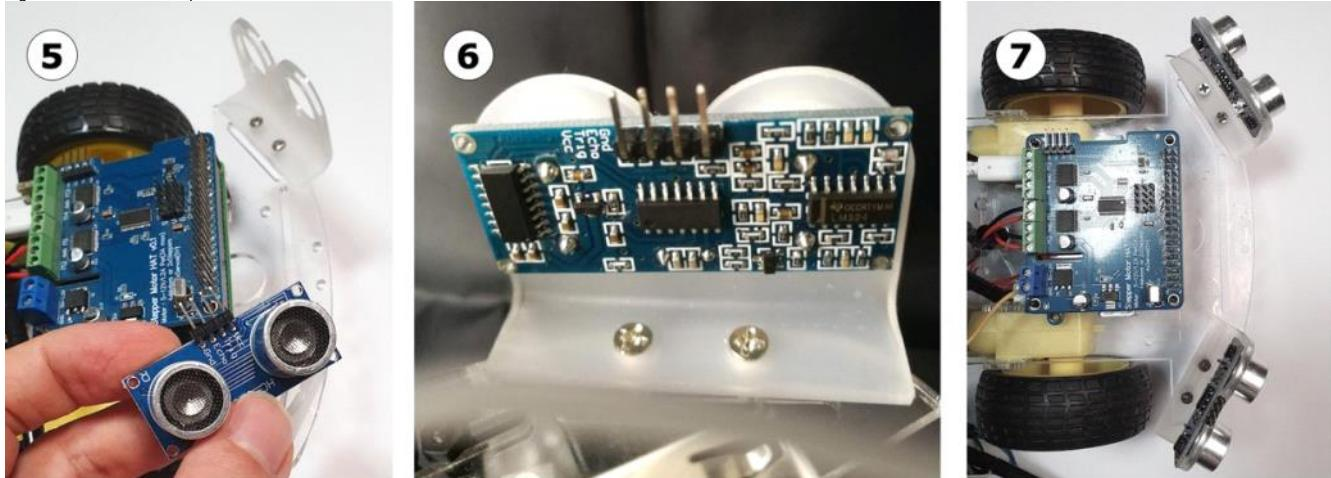

Figure 8.10 – Pushing the sensors into the brackets
*Figure 8.10* shows how to push the sensors into the brackets:
7. After putting in both sensors, the robot should look like panel 7 of *Figure 8.10*.